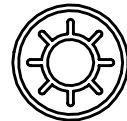

Fig. 3. - Mirror control switches
**To switch on/off, see Fig. 3.**
**To adjust the colour temperature (CTC), see Fig. 3.**
**To adjust the brightness levels, see Fig. 3.**